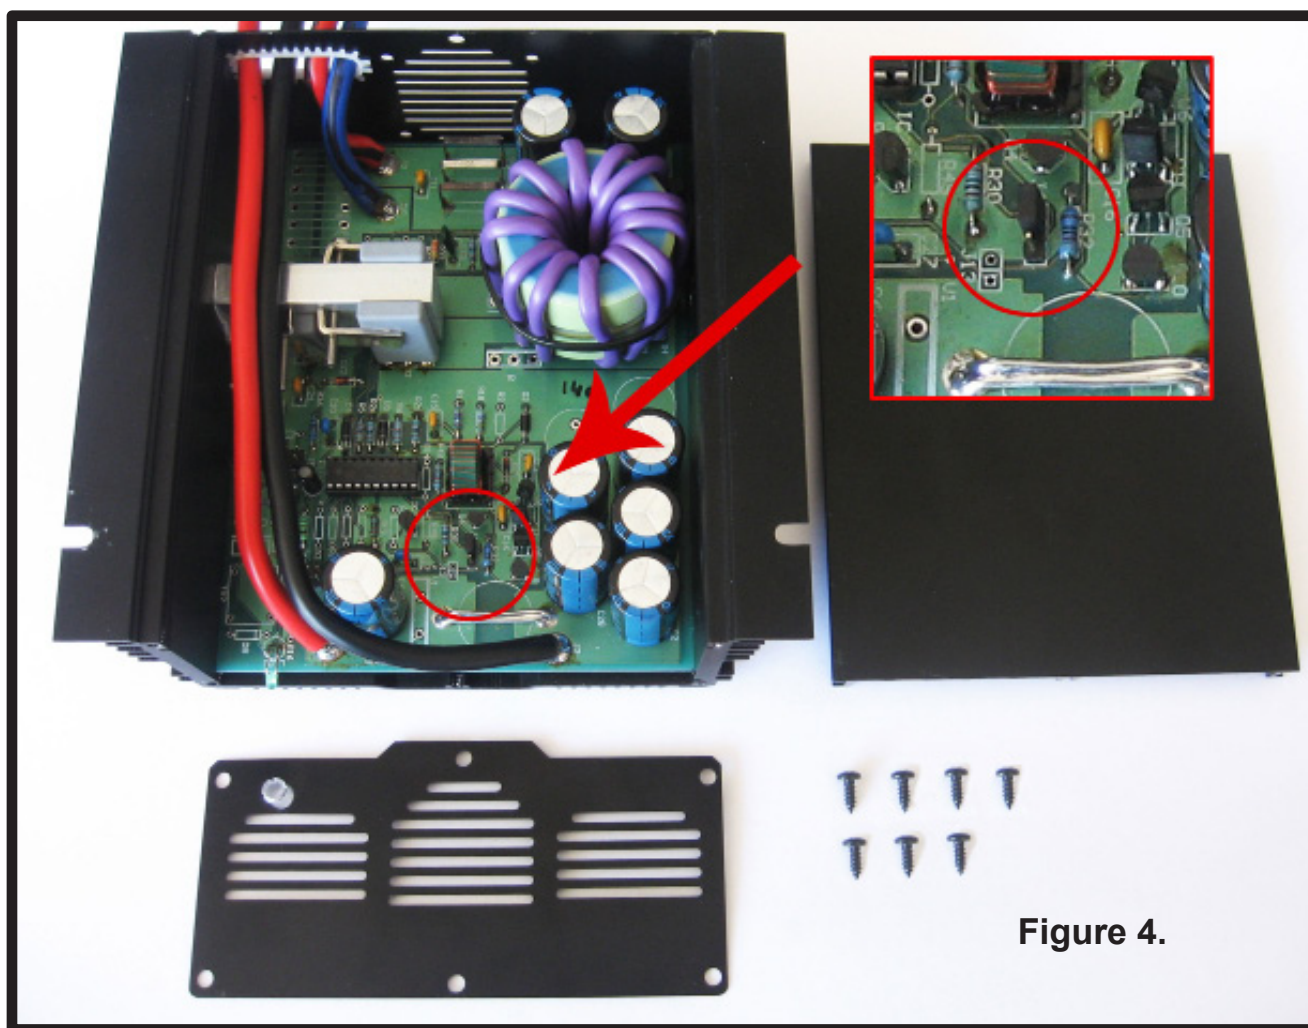

Figure 4.
- 2.Remove 7 front panel screws and the front panel and slide out cover – **see Figure 4.**
- 3.Locate connector J4 – **see Figure 4.**